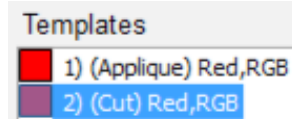

Fig. 22
15. In the *Export to Cutter* dialog select only the *Cut* portion of the design (See Fig. 22).